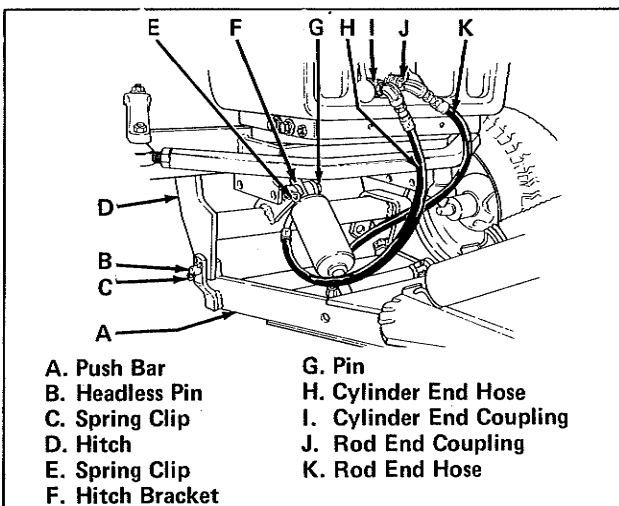

Figure 5. Attach to Tractor
3. Drive tractor forward until front hitch (item D, figure 5) is over rear of push bar (item A).
4. Disconnect hoses (items H and K, figure 5) from quick-disconnect couplings. Then install plastic covers in couplings.